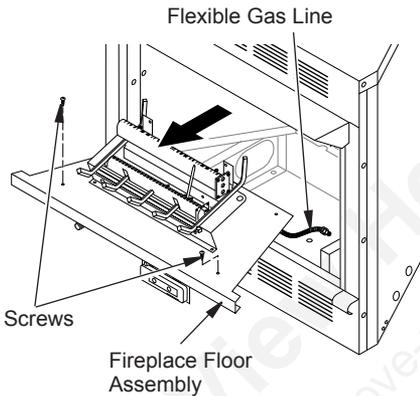

Figure 6 - Removing Fireplace Floor Assembly
3. Remove screws that attach fireplace floor assembly to fireplace. Open lower louver door. Carefully lift up fireplace floor assembly and remove from fireplace, taking care to pull flexible gas line through the access holes (see Figure 6). **Note:** Be careful of all wires on underside of log base.